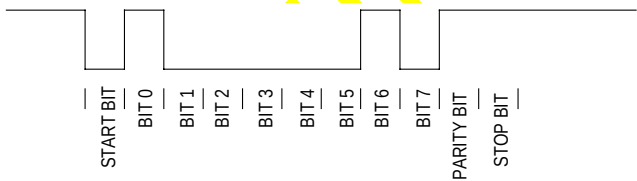

Figure 11-2. NRZ ASCII "A" Character with Odd Parity
The UART module has two operating modes—NRZ and infra-red. NRZ mode is usually associated with RS-232. Each character is transmitted as a frame delimited by a Start bit (0) at the beginning and a Stop bit (1) at the end. Data bits are transmitted least -significant bit first and each bit is presented for a full bit time. If parity is used, the parity bit is transmitted after the most-significant bit. Figure 11-2 illustrates an 8 bit ASCII "A" character (41 hex) with odd parity.